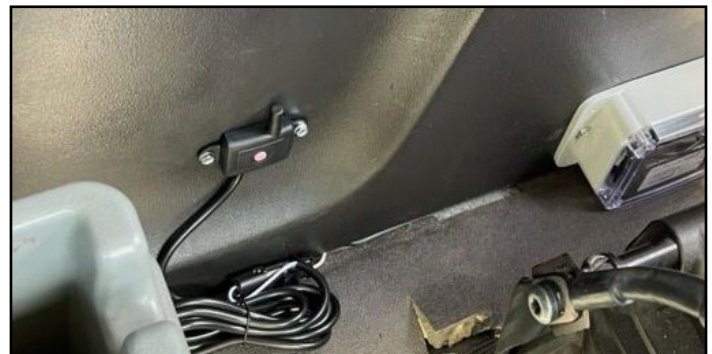

Figure 2: Optional repeater location.
- Using the TVL sending unit as a template, mark mounting hole locations and drill with a 3/8" drill bit. See Figure 2.